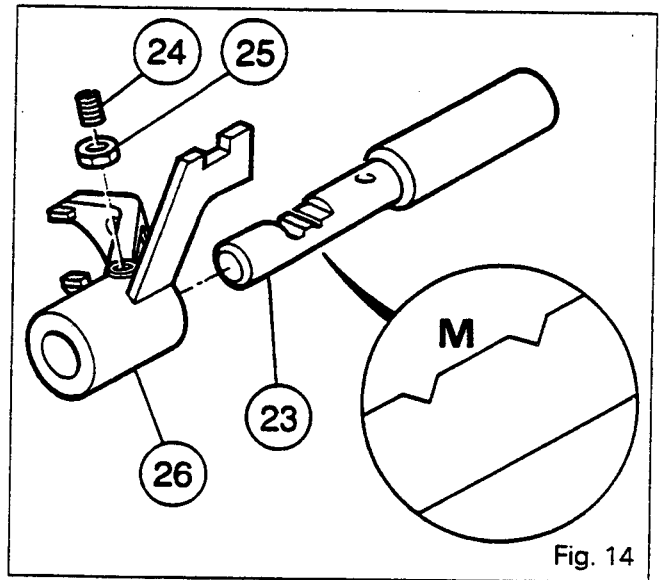

Fig. 14
88. Refit the screw (24) and the nut (25) on the fork (26).
89. **Adjustment of locking of fork (26) (Fig. 14) :**
- . Position the fork (26) and the locking screw (24) on the flat part M of the shaft (23) (between the two locking notches). Tighten the screw as far as it will go so as to compress the ball.
- . Loosen the screw by 1/4 of a turn. Smear the nut (25) with Loctite 241. Tighten to a torque of 15-20 Nm.